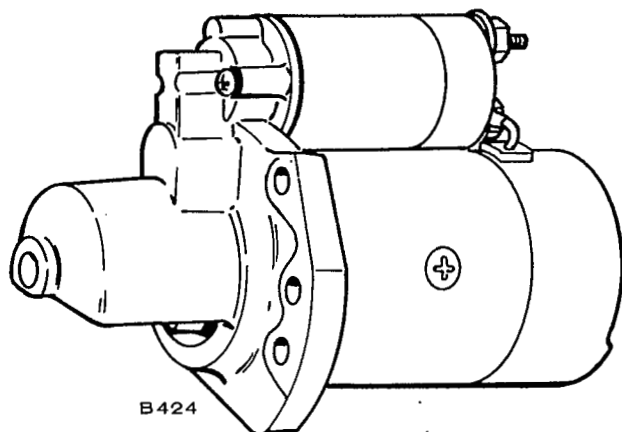

FIGURE 32. STARTER ASSEMBLY
**CAUTION** To prevent insulation damage, do not use steam or high pressure water to clean the starter assembly (Figure 32).